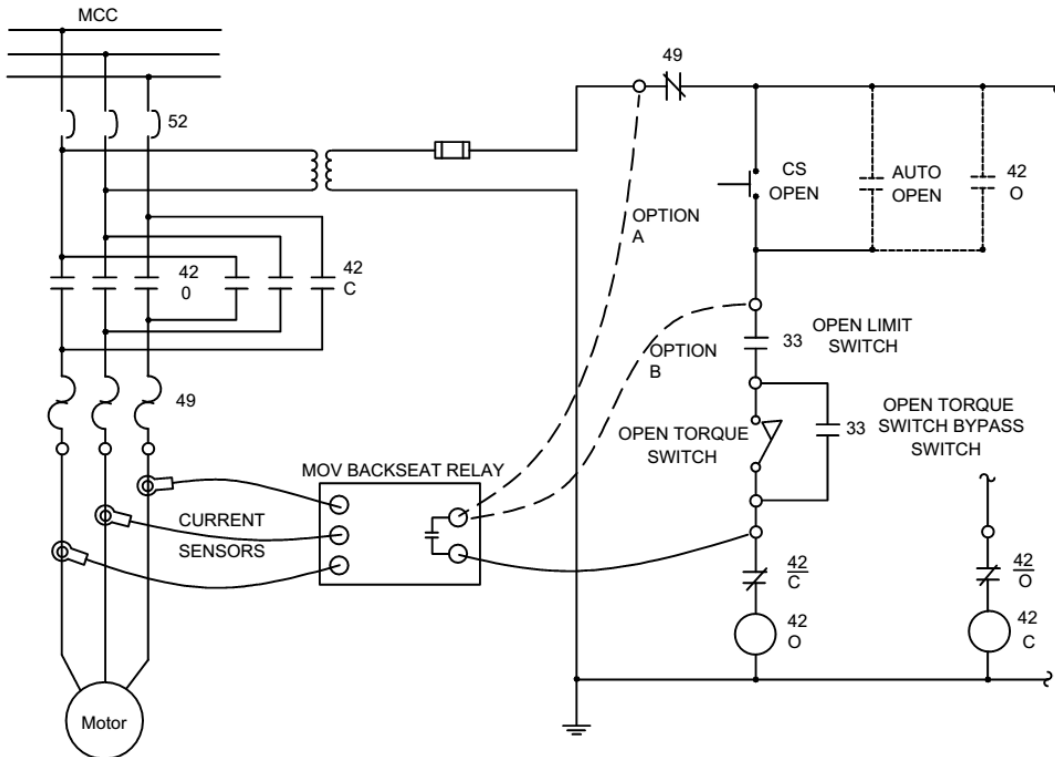

Figure 2: Typical Connection Diagram
- 5.3 Connect test leads from the yellow relay contact jacks to parallel with the limit switches in the motor control cabinet. Typical connection points are shown in Figure 2. Option A gives full control to the relay. With option B, the relay just bypasses the limit switches.